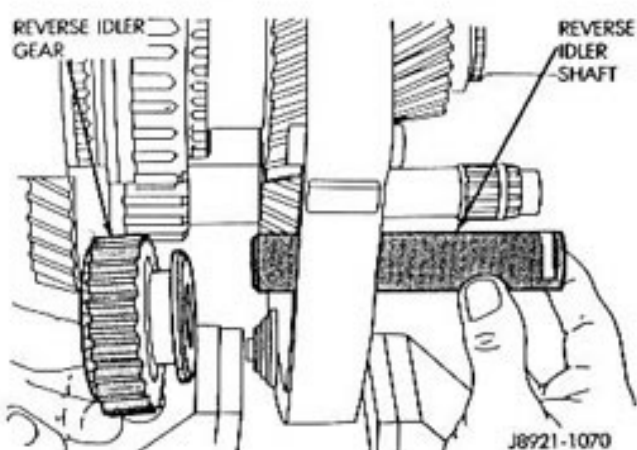

Fig. 40 Removing Reverse Idler Gear And Shaft
(21) Remove the reverse gear and shaft (Fig. 40).